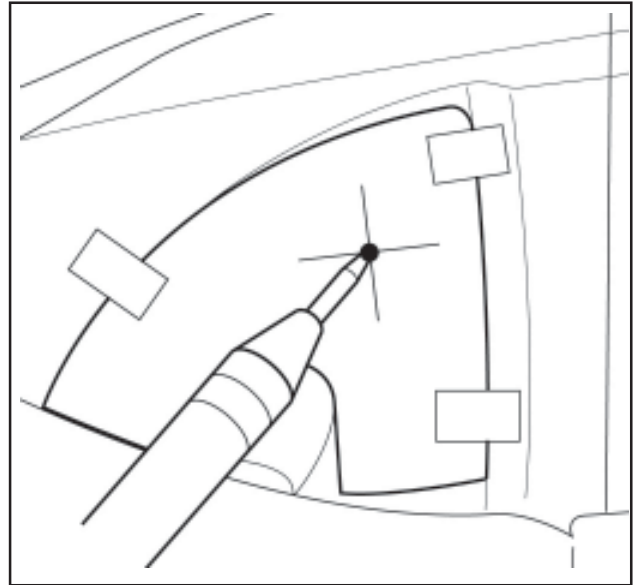

Fig. 3
4. Using a punch, mark the location for drilling. Remove paper template, ensure the hole is punched through, flip over paper template and repeat on passenger side. (Fig. 3)